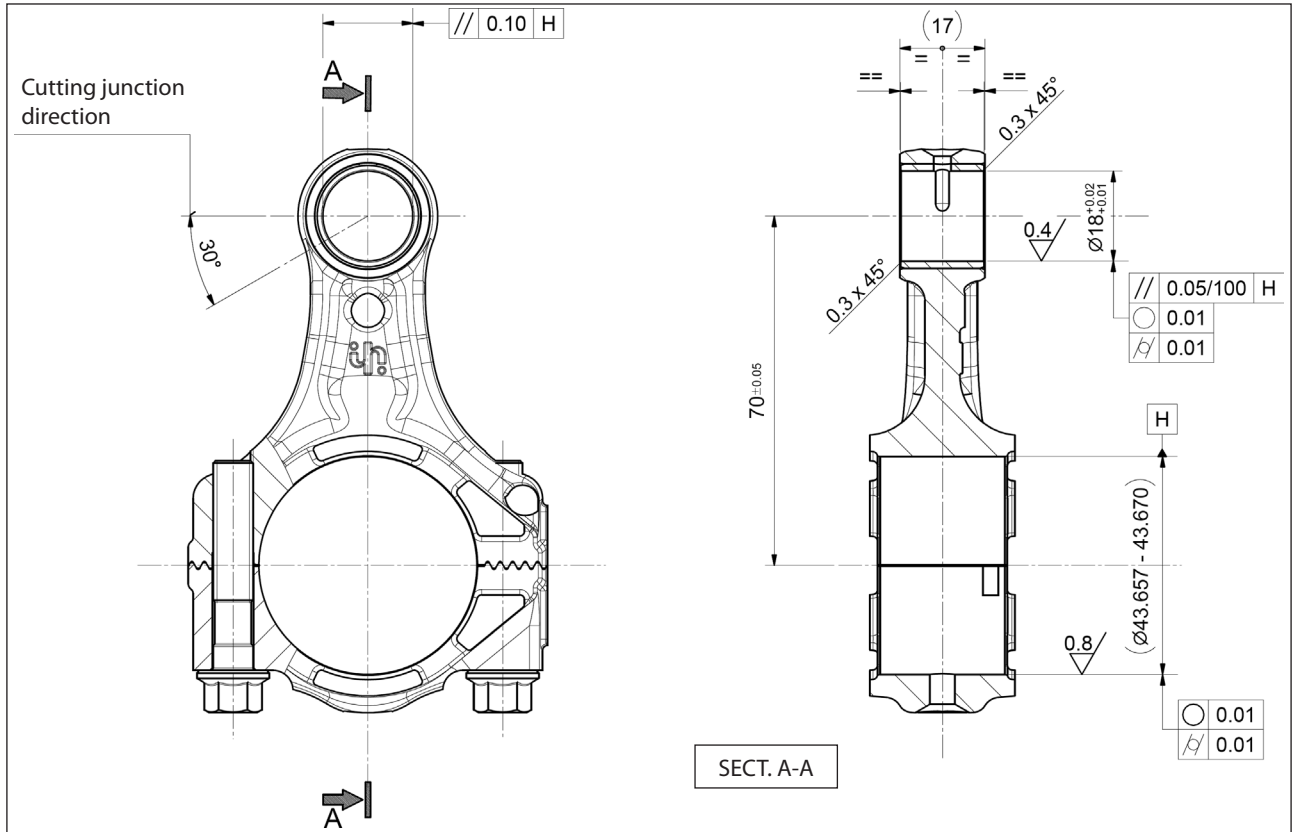

Fig. 32
\*\* The head fixing screws exploded view pos. 55 must be tightened with a torque wrench respecting the order shown in the diagram in Fig. 32.
- the cutting junction is directed as shown in (Fig. 32).
Then perform mechanical processing. The dimensions and tolerances shown in (Fig. 32) must be respected.